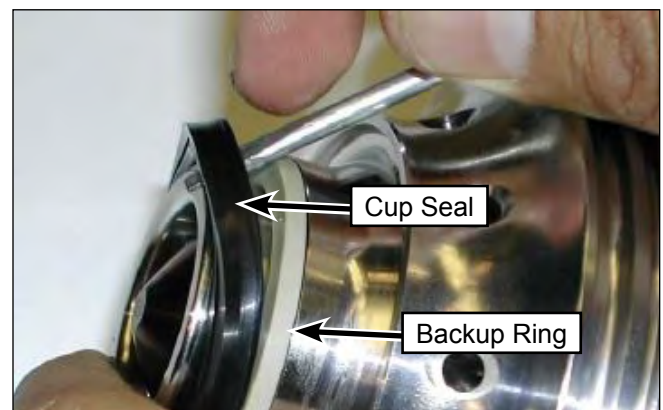

Figure 89: Remove Ring Seal and Support Ring.
3. Use the screwdriver to remove the ring seal (Figure 89) and seal support ring.